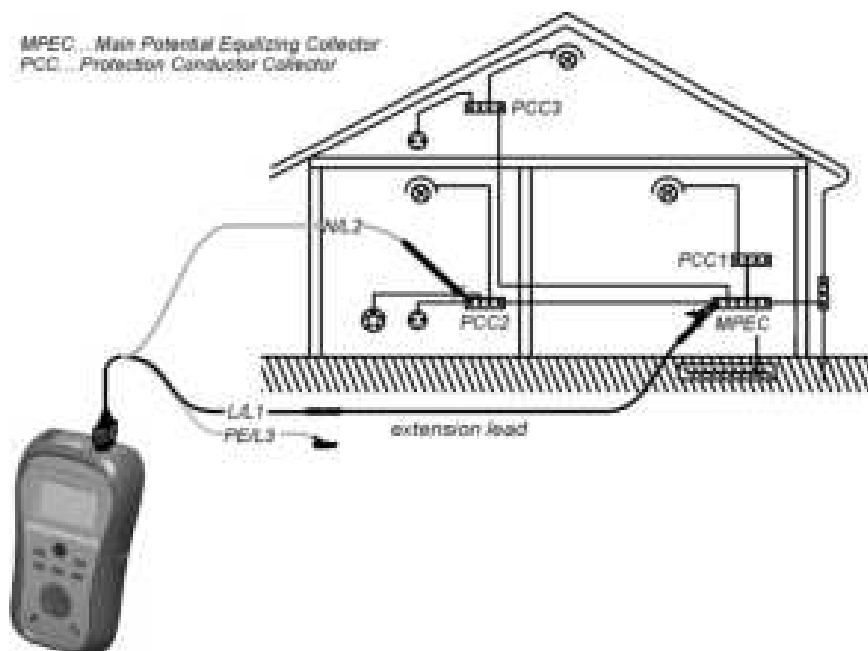

Figure 5.12: Connection of universal test cable plus optional extension lead
- ❑ **Connect** the test leads to the appropriate PE wiring (see *figure 5.12*).